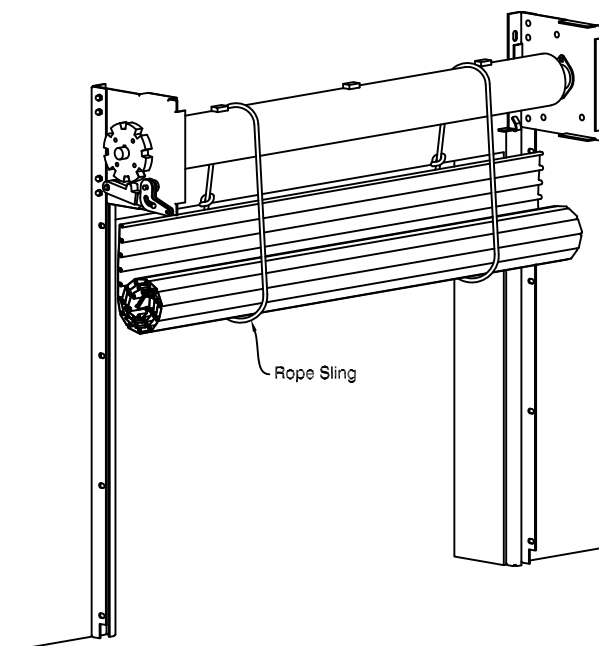

Fig. 13
Hoist the coiled curtain approximately one (1) foot below the pipe shaft assembly and suspend it using rope slings. See Fig. 13. NOTE: Two or more rope slings is strongly recommended.